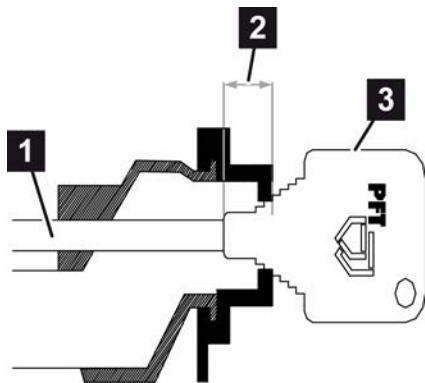

Fig. 71: Air nozzle pipe clearance
- Adjust the air nozzle pipe (Fig. 71/2) clearance with the supplied gauge (Fig. 71/3).